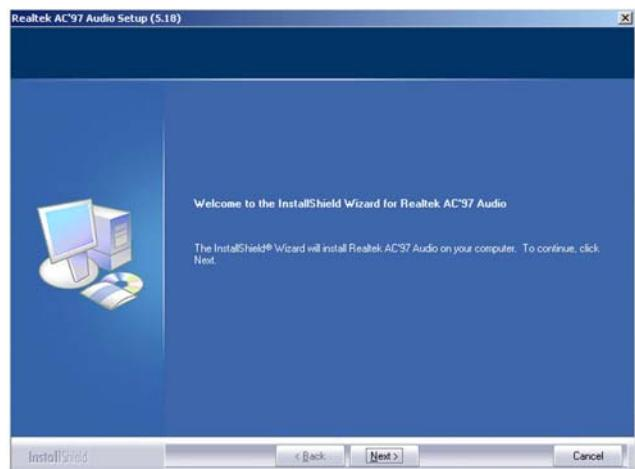
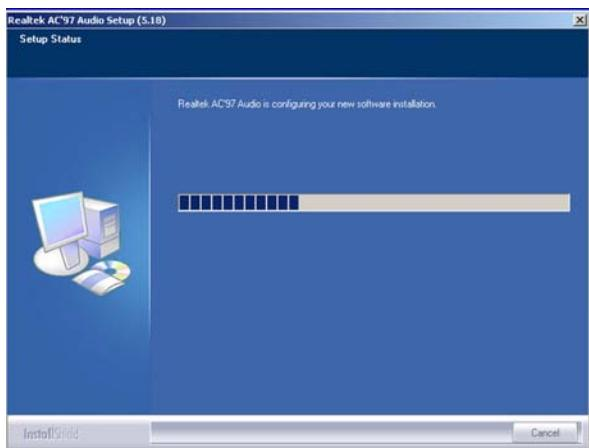

Figure 7-29: AC'97 Audio Driver Welcome Screen
Figure 7-30: AC`97 Audio Driver Software Configuration
Step 6: After the install shield is prepared, the welcome screen shown in **Figure 7-29** appears. To continue the installation process, click the “NEXT” button. The install shield starts to configure the new software as shown in **Figure 7-30**.